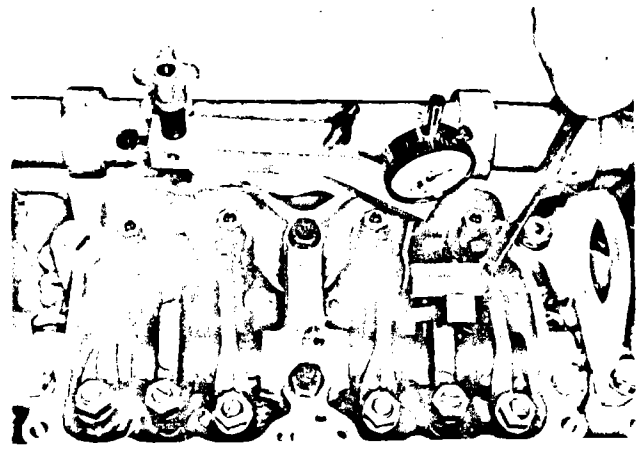

Fig. 2-44. (N114232). Bottoming injector plunger in cup — N-855
- Using ST-1193 Rocker Lever Actuator, Fig. 2-44, or equivalent, bar the lever toward the injector until the plunger is bottomed to squeeze the oil film from the cup. Allow the injector plunger to rise, then bottom again. Set the indicator at zero (0). Check the extension contact with the plunger top.